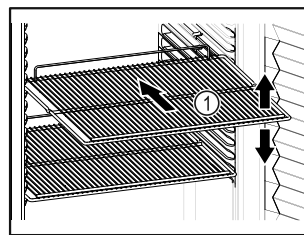

Fig. 18 Example illustration
- If there are adjustable shelves Fig. 18 (1), position them as required.